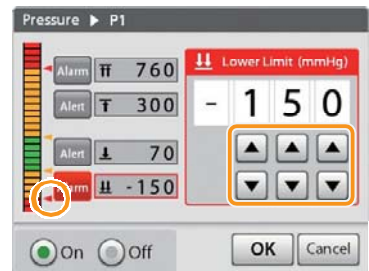

Figure 3-13
7. Tap ▲ or ▼ to input the lower limit value you want to set. (Figure 3-13)